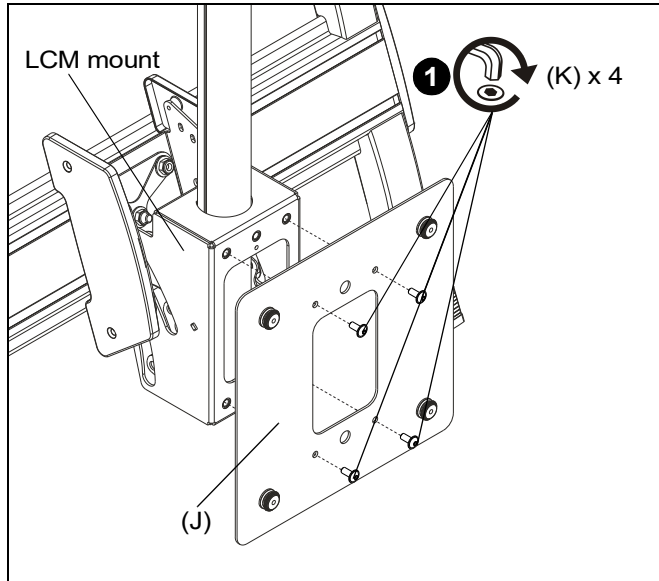

Figure 13
1. Use four 5/16-18 x 3/4" button head cap screws (K) to secure LCM upright adapter (J) to back of LCM mount. (See Figure 13)